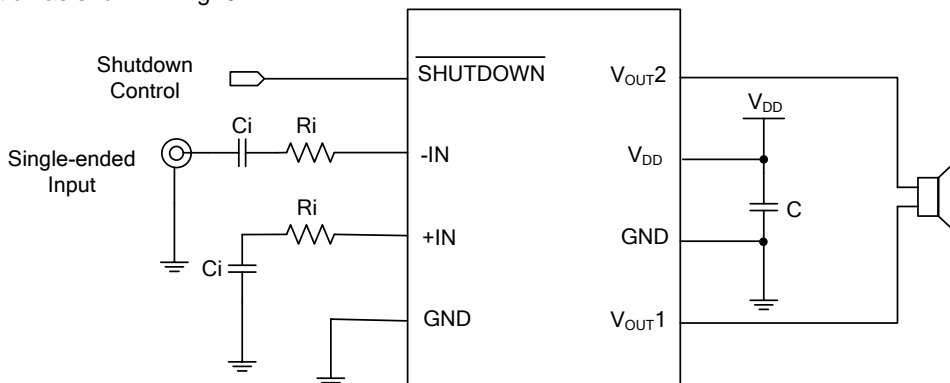

Fig. 6 Single-ended Input Configuration
Of course, the input capacitors can also be used to remove the low audio frequencies. When using the M4670 single-ended source, power supply noise on the ground is a +IN input pin capacitance-coupled input signals are on the ground (Fig. 6~8). Setting the high-pass filter point above the power supply noise over the frequency of 217Hz in the GSM mobile phone.
The M4670 can be used for single-ended input capacitance of the source, but will need to enter the terminal to prevent any DC. For the gain equations, Equation (2), frequency response, Equation (3), the typical application configuration as shown in Fig. 6.